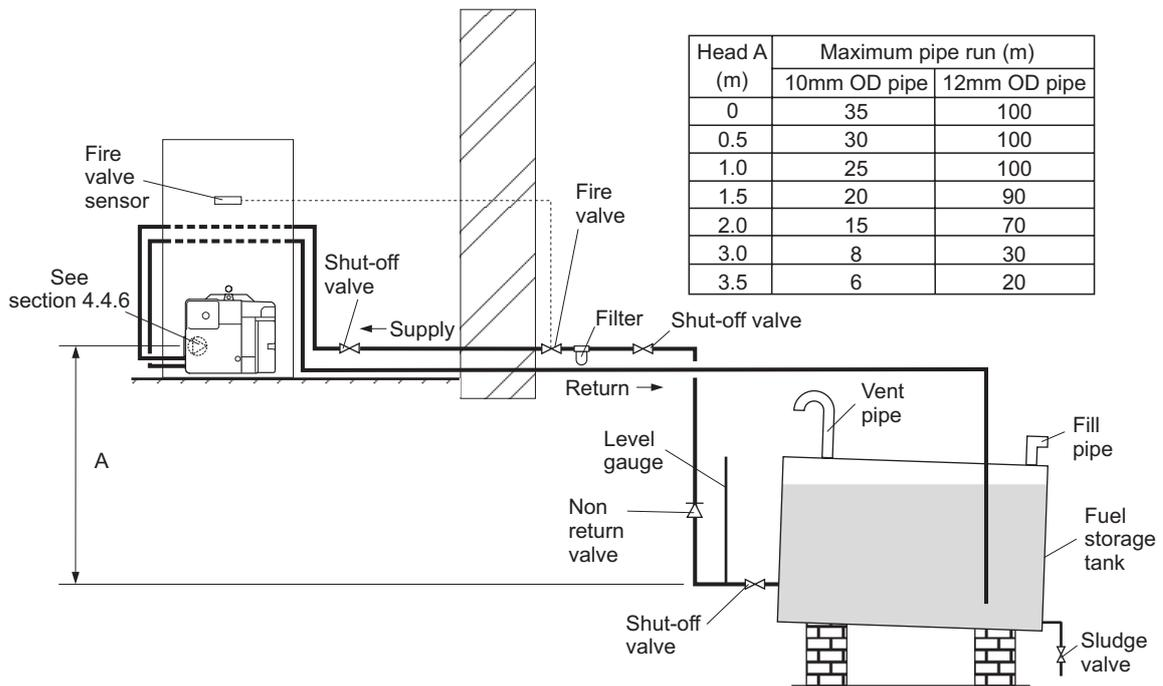

Fig. 4 - Two pipe system
4.4.4 Two pipe system - (See Fig. 4)
- When the storage tank outlet is below the burner, the two pipe system should be used. The pipe runs should be as shown in Fig. 4. The return pipe should be at the same level in the tank as the supply pipe, both being 75 to 100 mm above the base of the tank. The pipe ends should be a sufficient distance apart so as to prevent any sediment disturbed by the return entering the supply pipe.
- 4 To be used with a two-pipe system, the burner **must** be fitted with an additional flexible fuel hose (a flexible fuel hose (600 mm) and $\frac{3}{8}$ " to $\frac{1}{4}$ " BSP male adaptor are available to purchase from Grant Engineering (UK) Limited), Part No. RBS104. See Section 4.4.6.